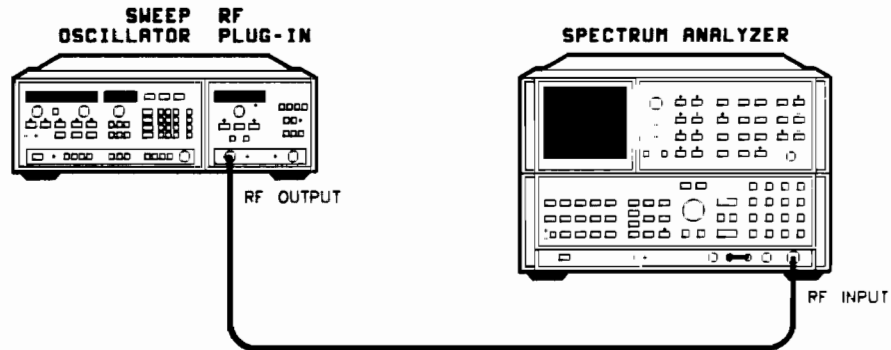

Figure 4-4. Frequency Stability Test Setup
1. Connect the equipment as shown in Figure 4-4. Turn the equipment on. On the sweep oscillator, press [INSTR PRESET], and allow one hour warm up.